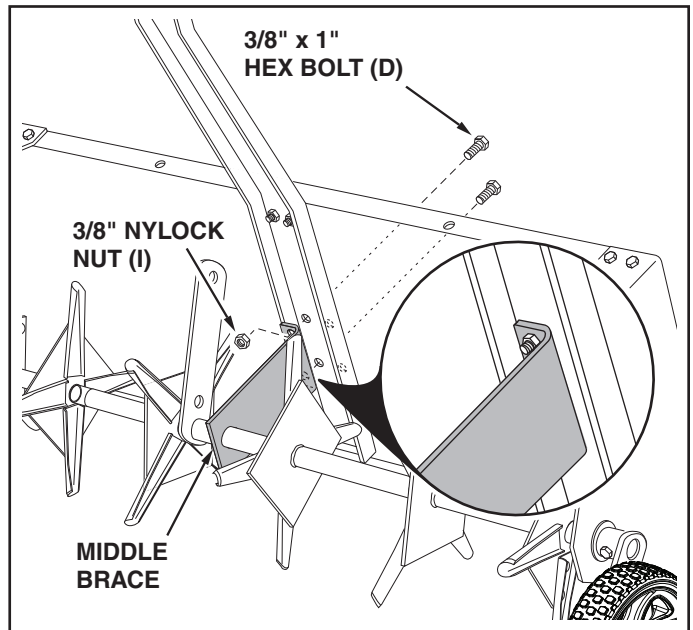

FIGURE 10
14. Tip the aerator back and rotate the middle brace up against the bottom of the tongue. Fasten it to the set of holes shown using two 3/8" x 1" hex bolts (D) and 3/8" nylock nuts (I). **Do not tighten until final step.** See figure 10.